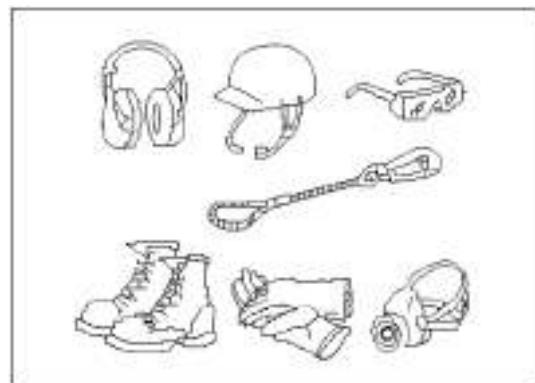

Figure 1-45 Work clothes and protective devices
- c) Always wear a helmet and safety shoes (Figure 1-45). In the operation or maintenance of the machine, the operators should wear safety goggles, face shields, gloves, ear plugs and belts if required.